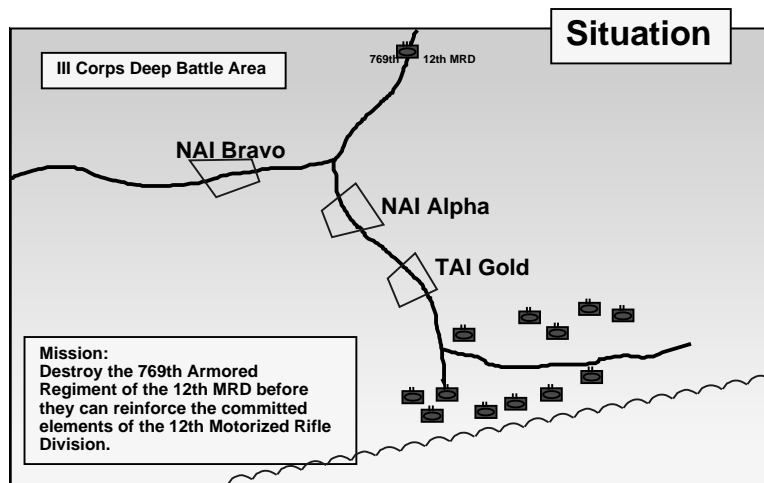

Figure 33. Use of Trigger Events to Monitor Enemy Situation
B. Trigger Events-Example 1. Figure 33 below shows the use of the trigger capabilities to monitor the enemy situation in order to determine which course of action he will take and to destroy the enemy at the right time and place.